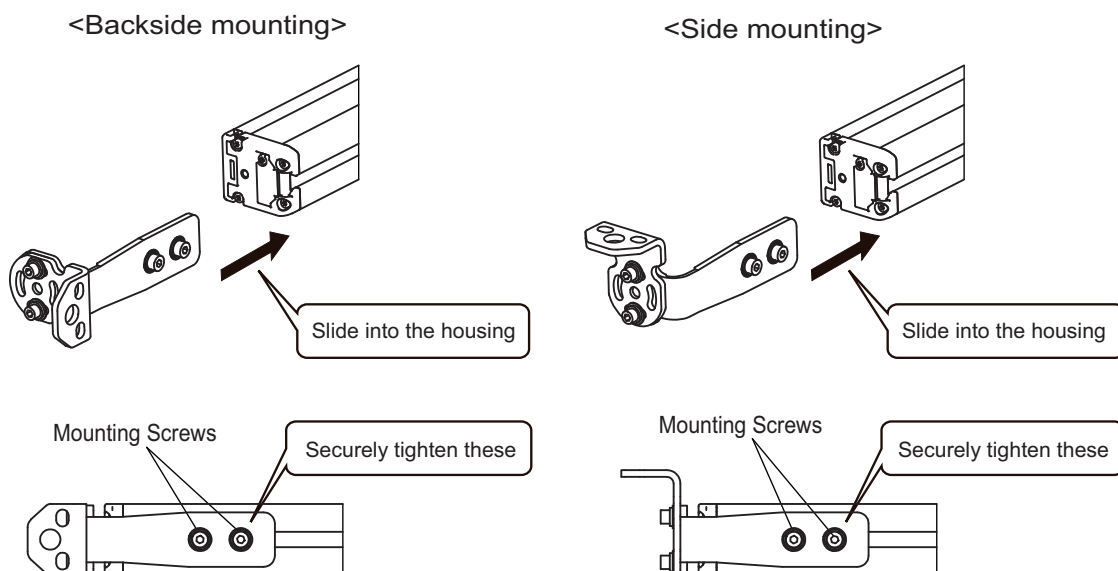

Fig. 2
2. Slide the Top/Bottom Bracket (1) in the grooves of the F3SG-RR housing. Adjust the Top/Bottom Bracket to the mounting position of the wall surface. Make sure to position the whole body of the Top/Bottom Bracket (1) within the golden area of the housing. Securely tighten the Mounting Screws to fix the Top/Bottom Bracket to the housing of the F3SG-RR. The recommended torque to tighten the Mounting Screws is 3.0 N•m. (Fig. 2)